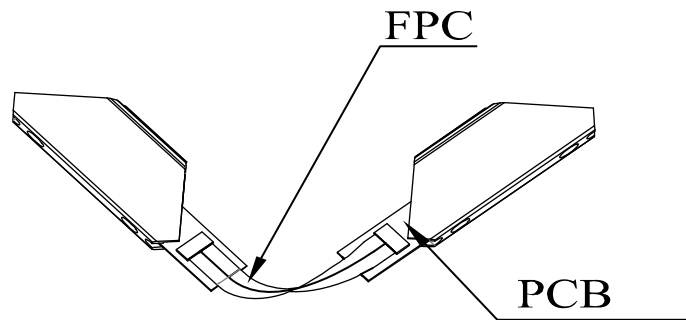
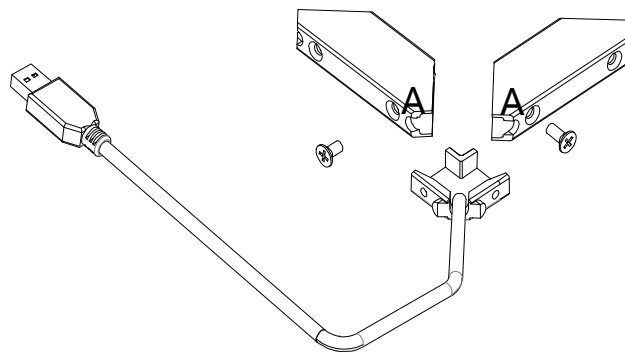
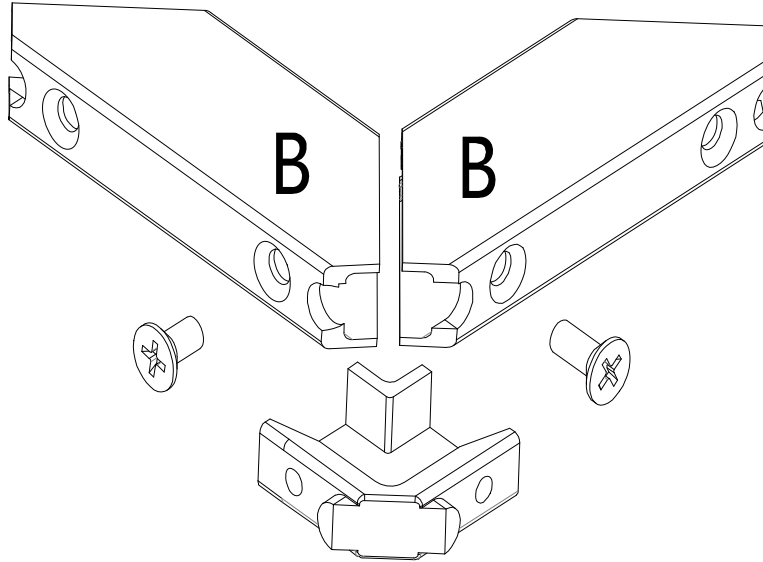
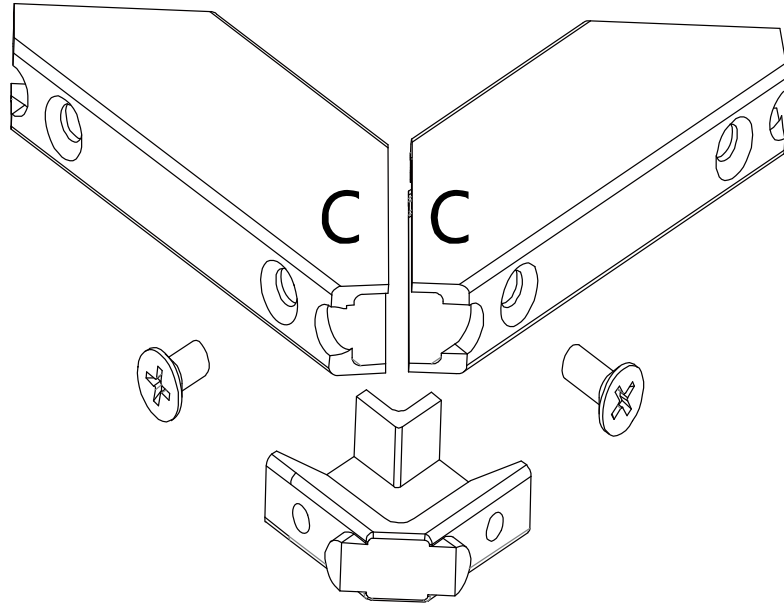

FIG.2 FPC Connection Diagram
FIG.3
FIG.5
FIG.7
2. Connect the FPC wiring harness in the corner A-A as shown in fig.2, Install the angle iron and USB as shown in fig.3.
3. Connect the FPC wiring harness in the corner B-B as shown in fig.2, Install the angle iron and USB as shown in fig.5.
4. Connect the FPC wiring harness in the corner C-C as shown in fig.7, Install the angle iron and USB as shown in fig.5.